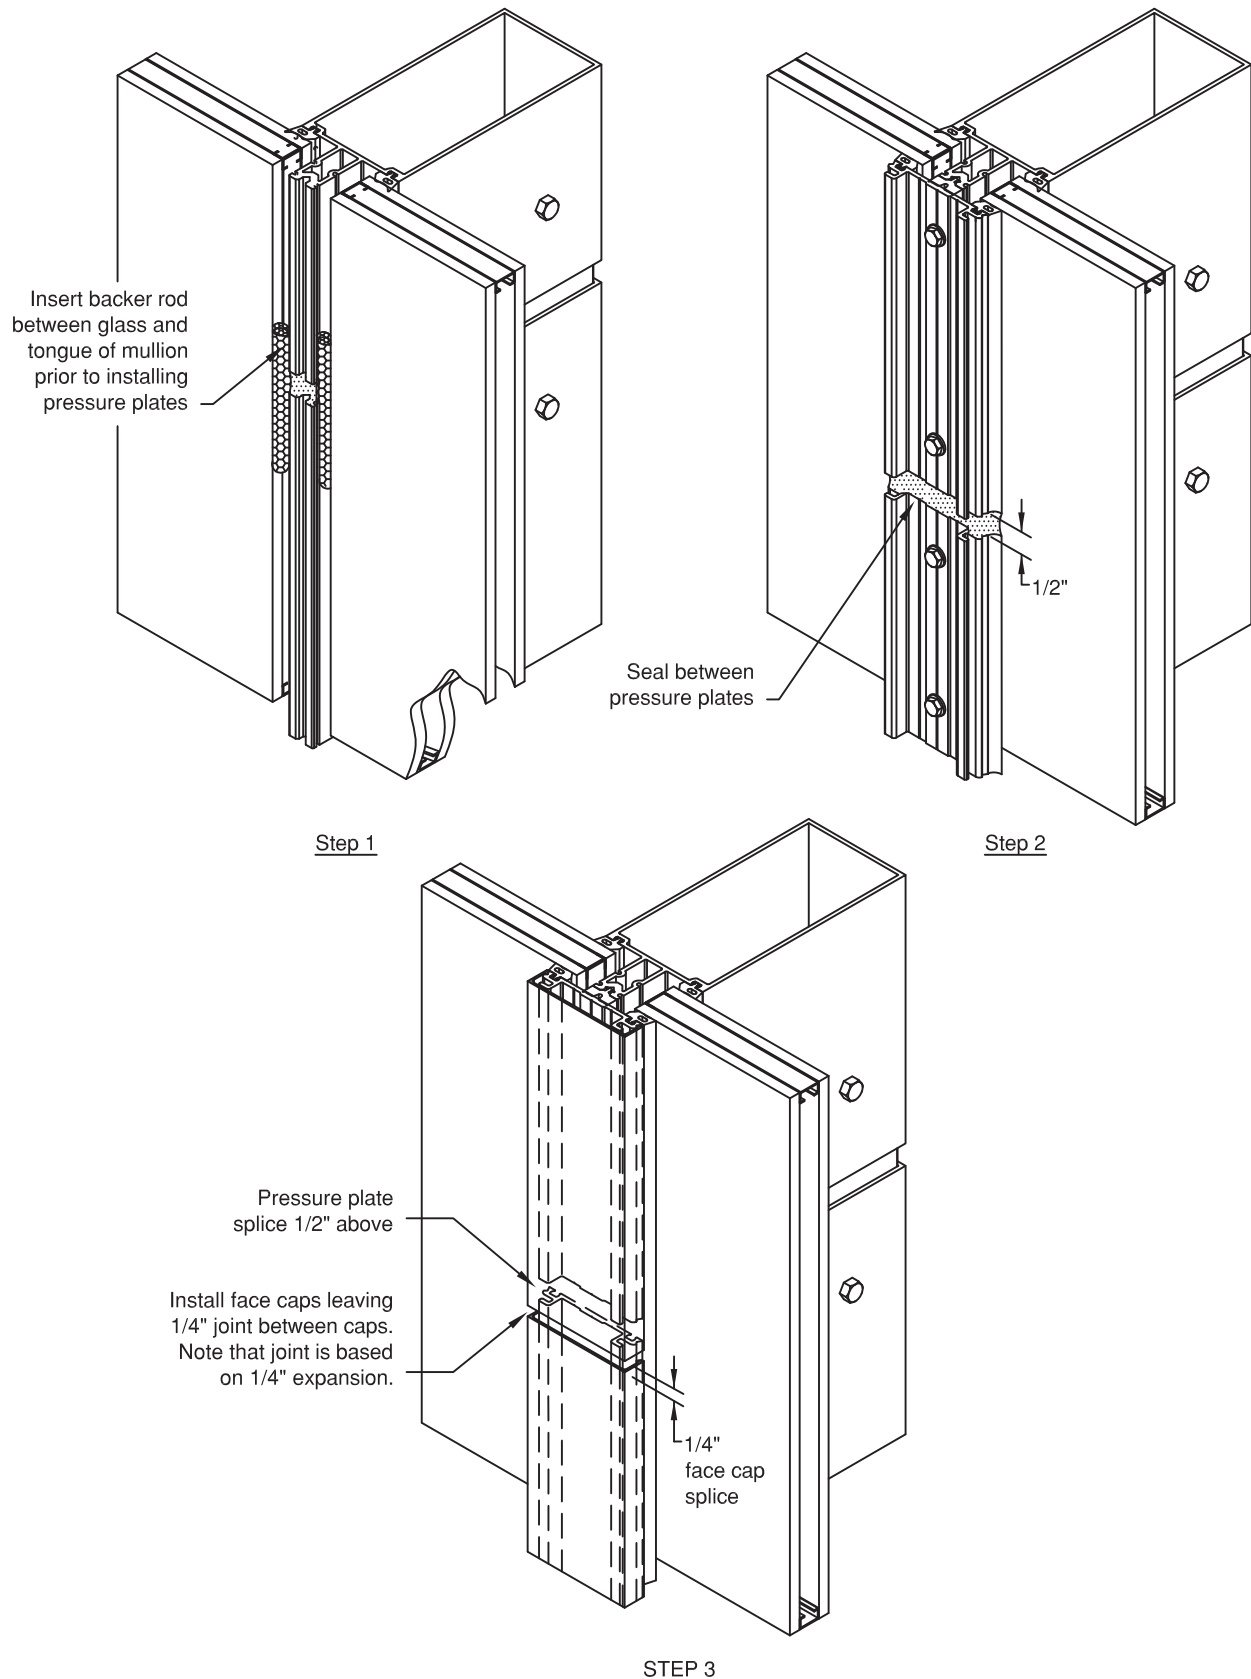

Figure 24
- B.3 Offset pressure plates and face covers per **FIGURE 23**, sealing pressure plate and face cover joints as shown in **FIGURE 24.**